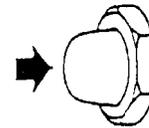

Figure 54. Emergency Stop Button
1. To stop the engine in the event of an emergency, **PUSH** the emergency stop button (Figure 54) inward. This button is located on the generator's engine operating panel, see page 30, Figure 11.